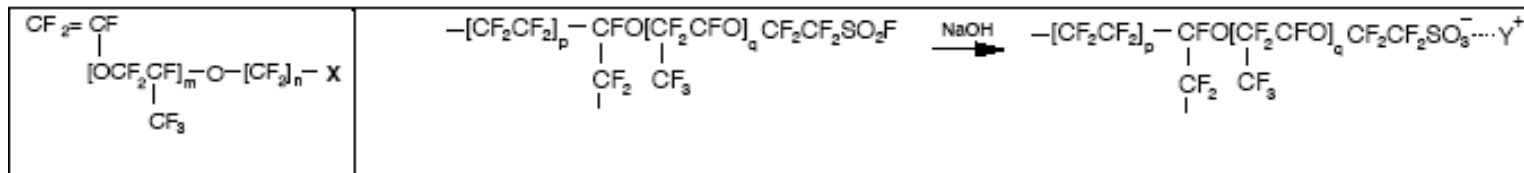

Fig. 1. The monomer (left) and the synthesis of Nafion™ (right). Note that $\text{X} = \text{SO}_3^-$ or COO^- , $m = 0-2$, $n = 1-4$, $p = 5-11$, and $q = 1$.
Fig. 1. Successive photographs of an IPMC strip that shows very large deformation (up to 4 cm) in the presence of low voltage. Note that $\Delta t = 0.5$ s, 2 V applied. The sample is 1 cm wide, 4 cm long, and 0.2 mm thick.
Fig.1 (A) Photograph of the bending motion of the Flemion®/gold composite driven by 2V voltage in water. (B) Schematic representation of the electromechanical model of the IPMC based on the stress due to electro-osmotic flow.